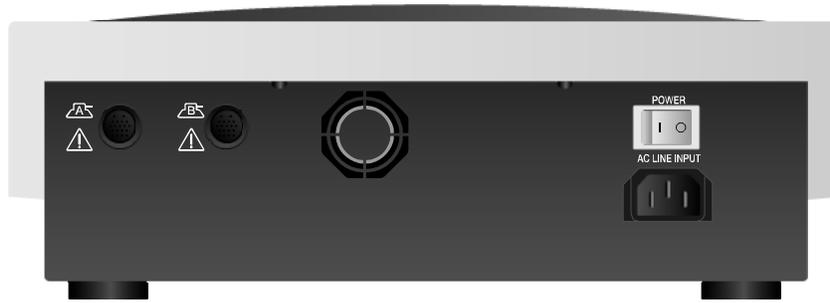

Figure 3.1 – Sonicator Plus 940, Back View –
3. Connect the line cord to the back of the Sonicator Plus 940. (See Figure 3.1) Make sure that the power switch is in the Off position.